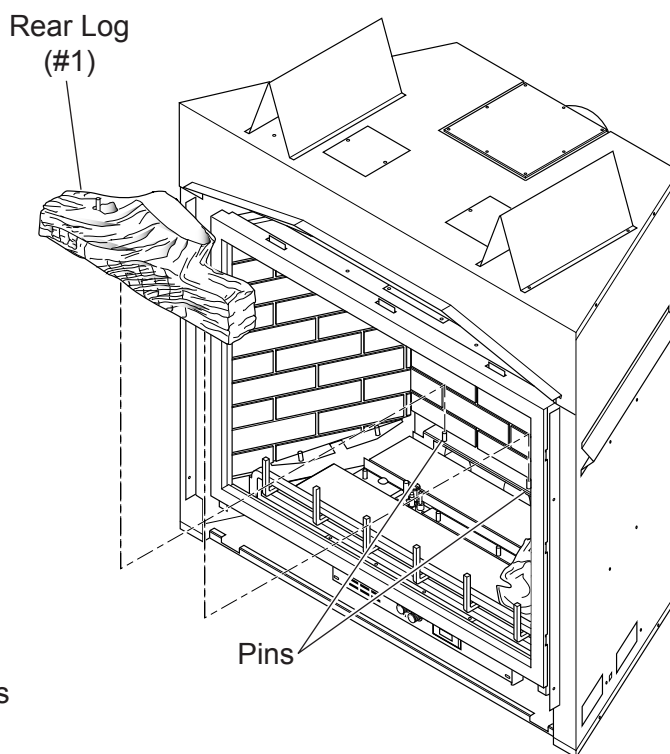

Figure 43 - Installing Rear Log (#1)
4. Place rear log (#1) on two pins against back side of firebox. See *Figure 43*.